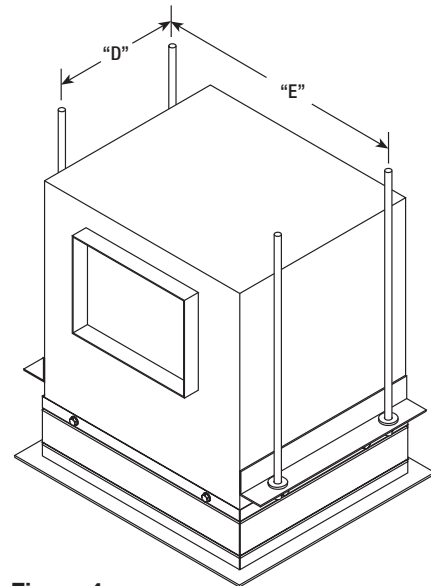

Figure 4
1. Suspend fan/damper assembly using #10-32 threaded steel rod as shown in **Figure 4**. Suspend from joists or cold rolled channels (do not suspend from beams). If vibration isolators are used, fender washers must have a larger outside diameter than the holes in the fan mounting angle.